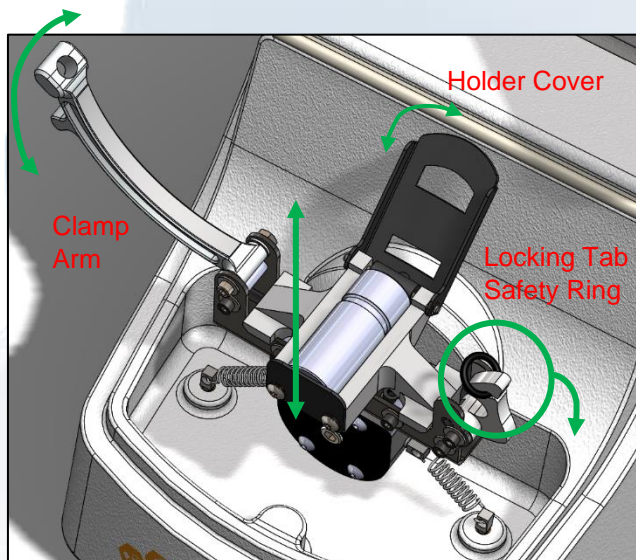

Figure 1 – Inserting (Removing) Vial Holder
Step 2. Lift the Lid by the Lid Handle. Place a vial holder in the clamp. **The holder must be inserted in the Clamp with the proper orientation, as shown in Figure 1 and 2).** Add 0.3 – 1.0 g of sample to vial and place in holder. Push the Holder Cover down and close the clamp arm by pushing it down then pressing the Locking Tab inwards until it clasps the clamp arm. Stretch the safety ring around the clamp arm knob to secure the vial in holder. To remove vial (or holder), unclasp the safety ring and Locking Tab from the clamp arm and extend the arm to the open position.